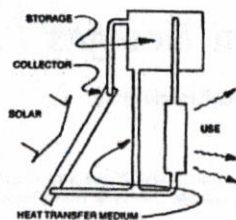

Fig. 2: Block diagram of a solar water-heating system
**Mh:** There are a few parts that are basic to most solar water heating systems (Fig. 2): collector(s), storage tank, heat transfer medium, and interconnecting plumbing. The collector intercepts the sun's rays and converts it into heat which is transferred to the storage tank using a fluid such as water or antifreeze. An expansion tank is used in closed systems to accommodate the slight changes in volume that result when water or antifreeze is heated and expands. If glycol (a non-toxic antifreeze liquid) is used, a heat exchanger is needed to transfer the heat from the collector to the water that will exit the faucet. A T&P (temperature